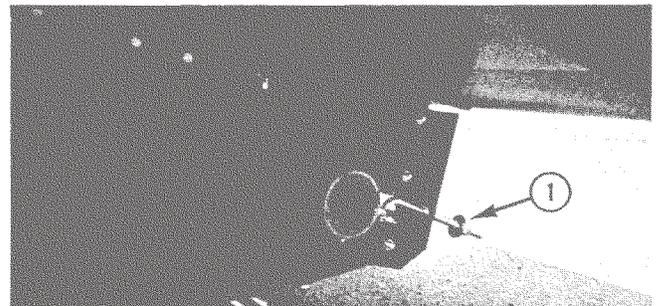

Figure 21. Conveyor Tail Pulley
2. Should it be impossible to obtain centered belt operation by adjusting the tail pulley (Figure 21) it will then be necessary to adjust the head pulley as outlined below. (Figure 22)